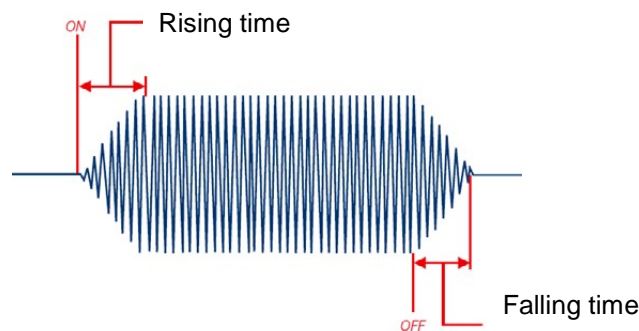

Figure 5: Rising and falling
- I. Taper setting: This is a function to apply taper to the rising and falling when applying the amplitude of the sine wave to the exciter (see figure 5). Set time in the unit of s (second). Rising time is 500 ms and falling time is 10 ms in here.